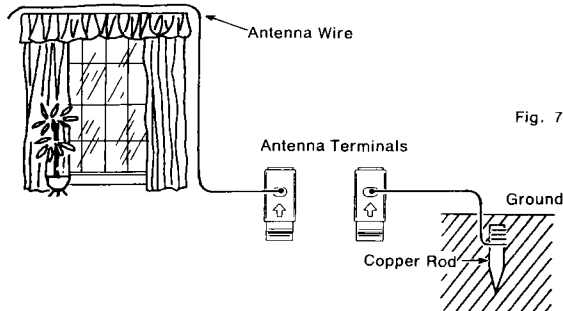

Fig. 7
The rear ferrite core antenna will assure excellent MW reception in most areas. If the stations are distant or if the signals are very weak, connect a suitable length of the accessory antenna wire to the MW/SW1 Antenna Terminals ④, and extend. (See Fig. 7.)